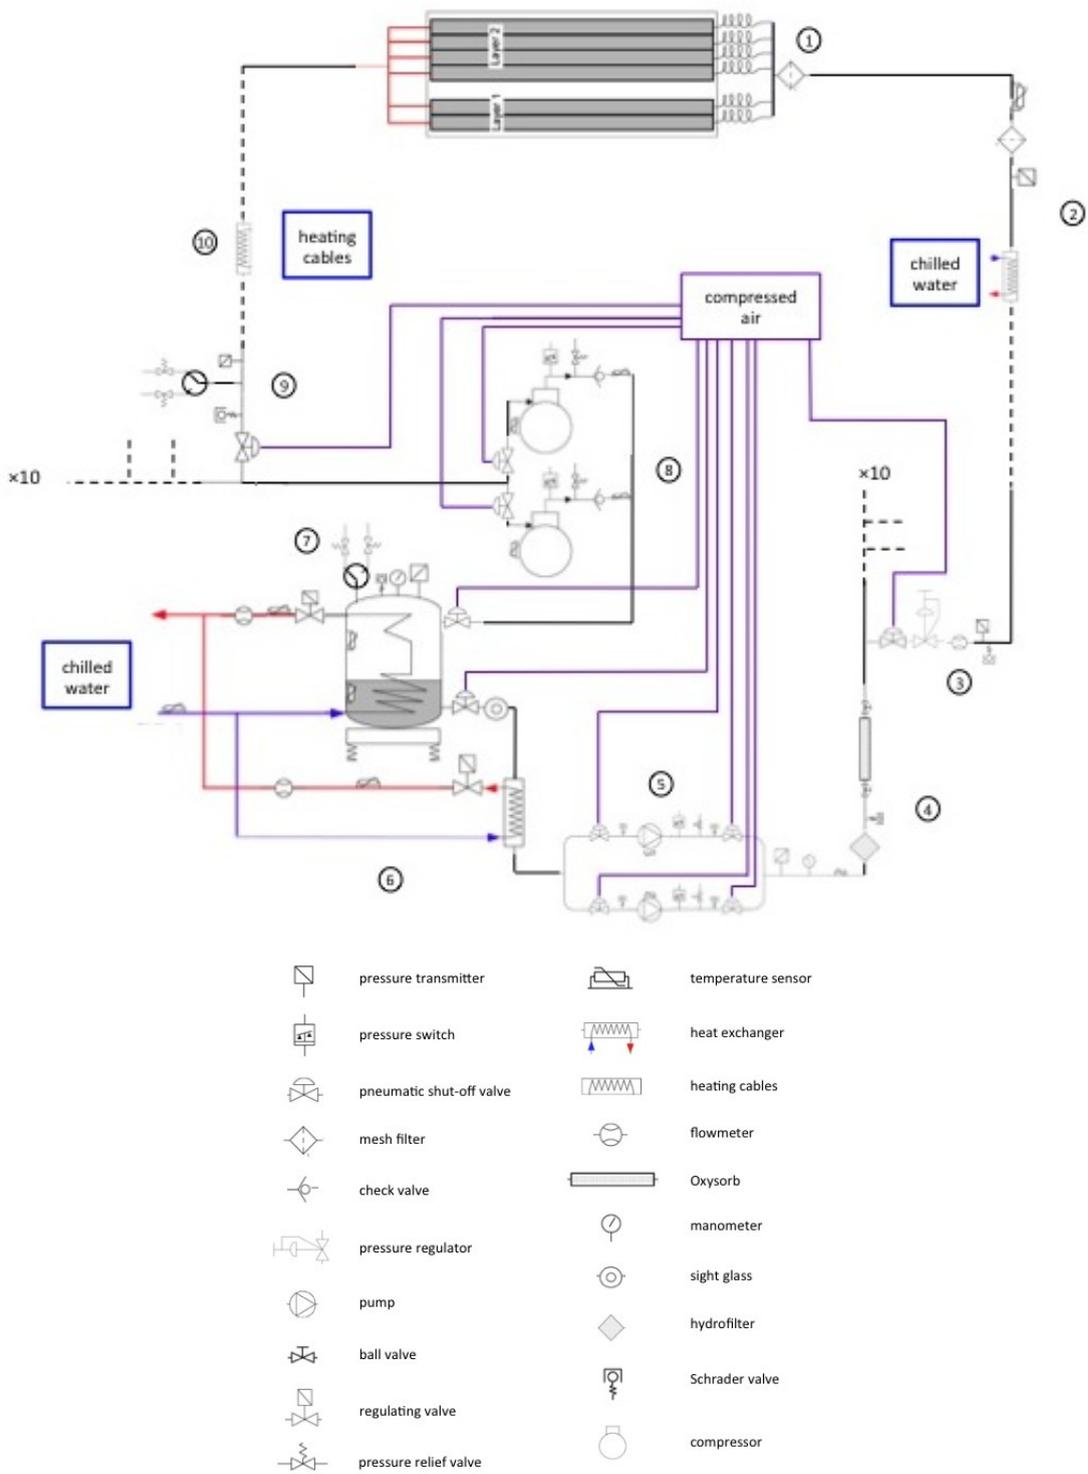

Figure 1: Layout of the SPD cooling circuit.
In figure 1 the layout of the cooling system is shown, as implemented before the 2010 run. In the picture a few zones have been marked with numbered circles to spot the main components. The system includes 10 circuits one per sector. Supply lines, made of stainless steel 316L pipes of 6 (4) outer (inner) diameter, cover a distance of approximately 40 m before reaching the detector through the RB26 side of the cavern. The return lines are 12/10 outer/inner diameter in size and run for approximately 35 m. We start from zone 7, where the gas is transformed in liquid in the condenser, fed by the central chilled ($6^{\circ}C$) water circuit. Because of pressure limitations imposed by the condenser and the (high) minimum required pressure difference for chilled water circulation, the chilled water feeds a heat exchanger to cool down the water coming from the mixed water supply lines, this last being fed to the condenser. The condenser is equipped with double pressure-relief valves, of which one is operational. The switch between the two is performed by a manual ball valve. In case of overpressure opening one of the valves, a constant small leak can appear due to incomplete closure of the valve. One has thus the possibility to switch to the second valve when access is allowed. A pressure transmitter and a temperature sensor deliver to the control PLC the information needed to regulate the pressure inside the condenser by a PID¹ loop which acts on the water regulating valve (zone 6). The system can cope with different heat dissipation rates in the detector by adjusting the freon flow rate. This is accomplished tuning the pressure at the pump outlet (see zone 5). This pressure is measured by a transmitter and then fed back into a PID loop implemented in the PLC. The PID output is converted into pump speed via a frequency inverter. The two pumps are of the rotary vane type as these have relatively low NPSH (net positive suction head) requirement, an essential concern given the near saturation state of the liquid at the pumps inlet. Nevertheless, should some cavitation occur, some parts of these pumps may wear out faster than any other plant component, so a parallel second pump is installed. One can switch from one pump to another remotely, in case a malfunctioning forces the operating pump to stop. The switching takes a time of the order of few minutes. In
By clicking the "SPD Cooling Status" tab of this panel, you are presented the panel shown in figure 3. For each sector, numbered from 0 to 9, the following values are shown: temperature side C, temperature side A, heaters (temperature), pressure side C, pressure side A, flow (rate), power consumption. Then a button close to each sector number informs you about the status of the cooling loop (green=open, red=closed). The temperature and pressure on side C are issued by the sensors in point 2 of figure 1. The heaters temperature refers to the temperature between the heating cable and the return pipe at the beginning of the heater (point 10 of figure 1). Temperature and pressure of side A (the return) are picked a few meters